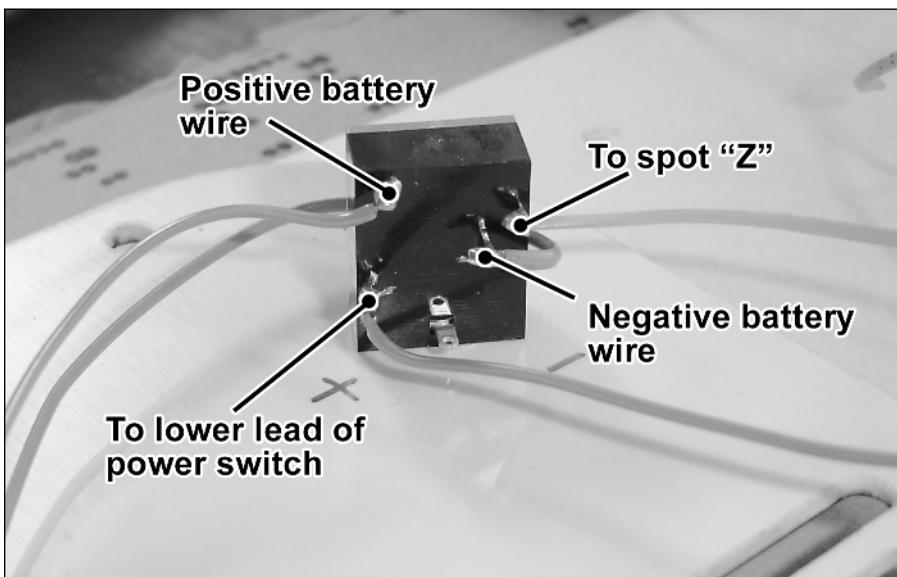

FIGURE 17-13: Wiring the DC AUX input jack.
Figure 17-13 shows what wires to attach to the DC AUX input jack, followed by some steps to take when doing it.
1. The positive and negative battery wires are the ones that were connected to the battery leads on the rear plate. Connect them to the DC AUX jack as shown in Figure 17-13.